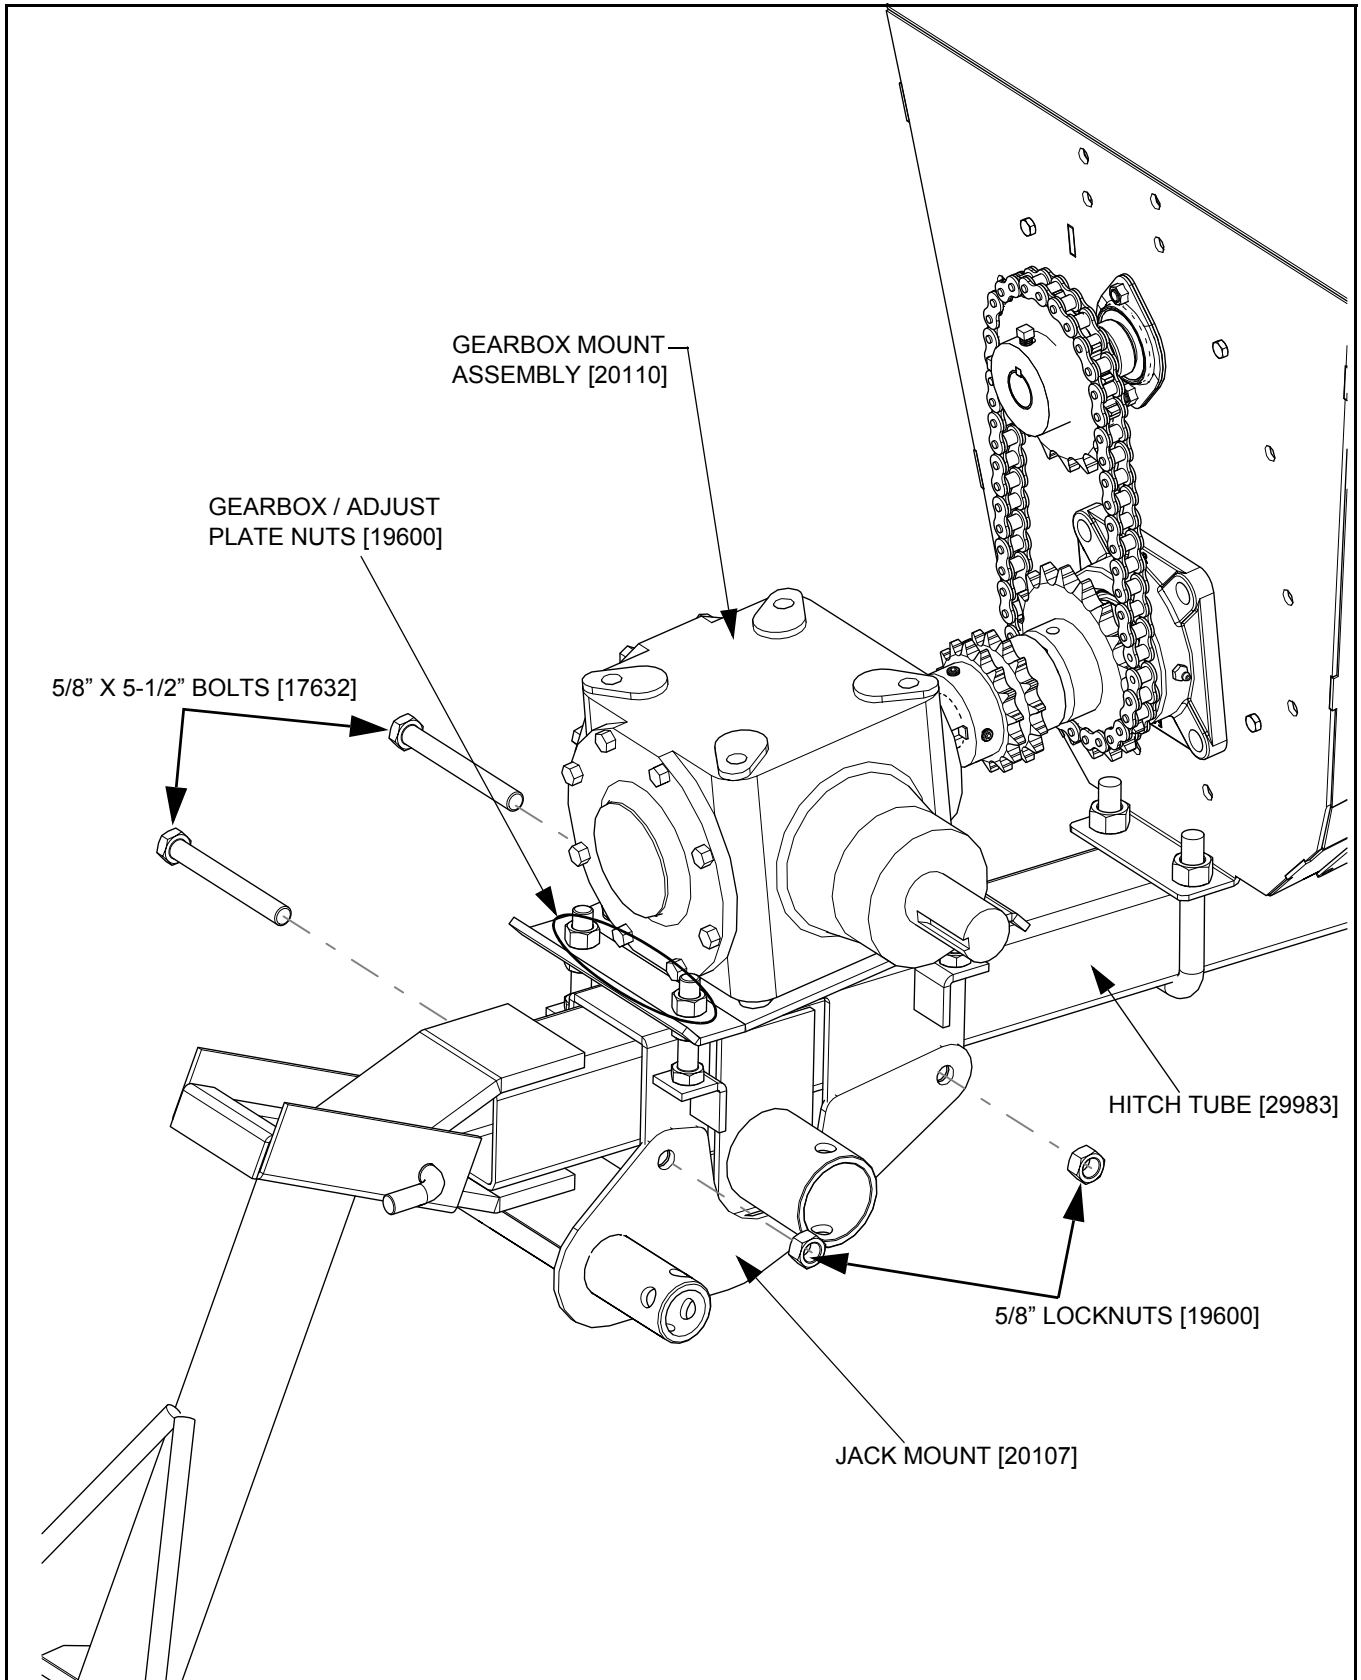

Figure 4 Installing Gearbox and Jack Mount
3. Position the gearbox mount assembly over the hitch tube as shown in Figure 4.
4. Position the jack mount below the hitch tube, as shown. Loosely fasten with 5/8" x 5-1/2" bolts and locknuts (see Figure 4). Do not tighten these bolts until step 8.